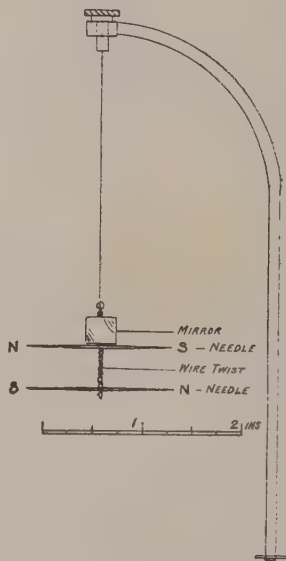

FIG. 1.
3. The standard (Fig. 1) is made of brass, bent as shown and rivetted to cherry base. A hole is drilled through its head for the reception of a brass swivel to hold system.